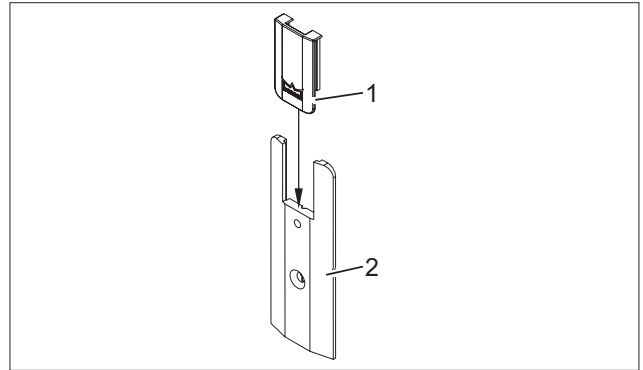

Fig. 46 Assembling the end cover
1. Place the plastic cap (Fig. 46/1) on the end cover (Fig. 46/2).